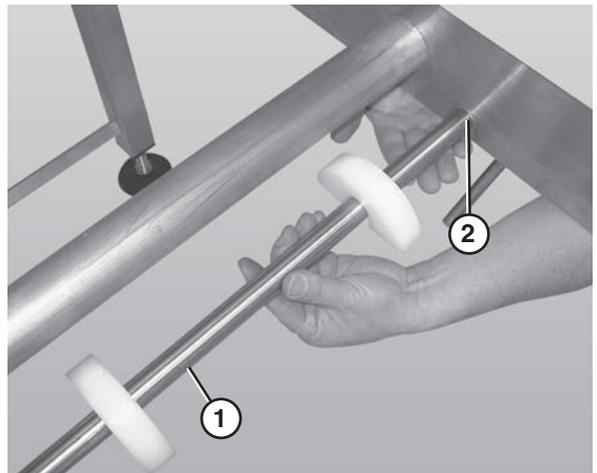

Figure 62
1. Remove the belt returns by pushing up on the return shaft (**Figure 62, item 1**) and sliding it through the large hole (**Figure 62, item 2**) in the frame.
2. Lower the opposite end of the return shaft (**Figure 62, item 1**) and slide it out of the frame.